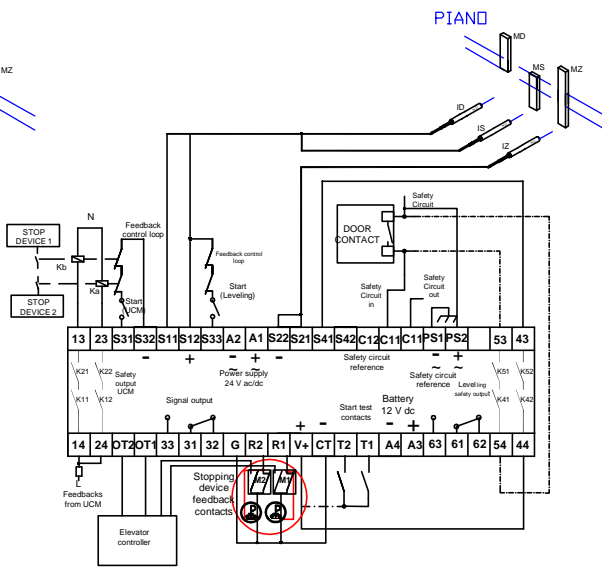

FIG. 2 Fault simulation of the stopping element
- 4) Shortcircuit the input R1,R2 as indicated fig.2 (Annex A)